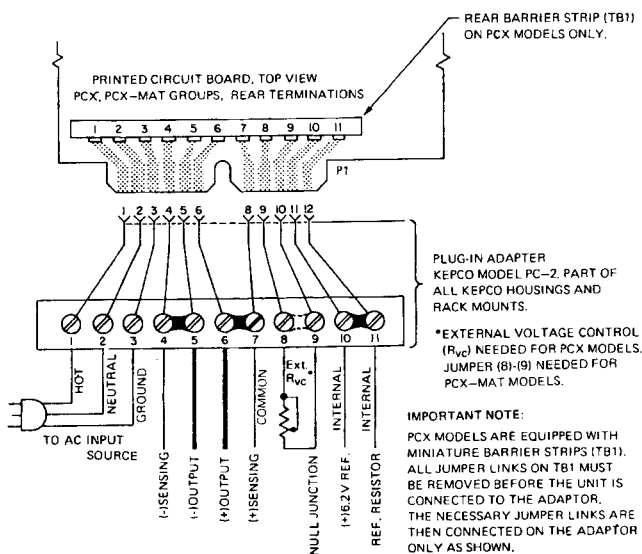

FIG. 2-2 REAR TERMINATIONS, PCX AND PCX—MAT GROUPS
- REAR: Refer to FIG. 2-2.
- b) PCX-MAT MODELS. Connect to mating device (either one of the accessories described in paragraph 1-8) and to AC input power. Turn AC POWER SWITCH "on". (Refer to FIG. 2-2 for the location of the front panel controls.) AC POWER INDICATOR light (part of AC POWER SWITCH) should energize. Turn VOLTAGE